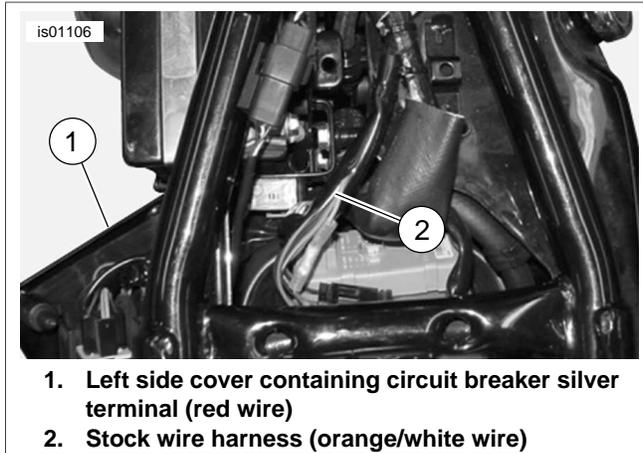

Figure 20. Power Connections (Sportster Models)
1. See Figure 20. Carefully slice open an area of the main harness wrap inside the electrical side cover or under the seat at an accessible point, and cut an orange/white main harness power lead.